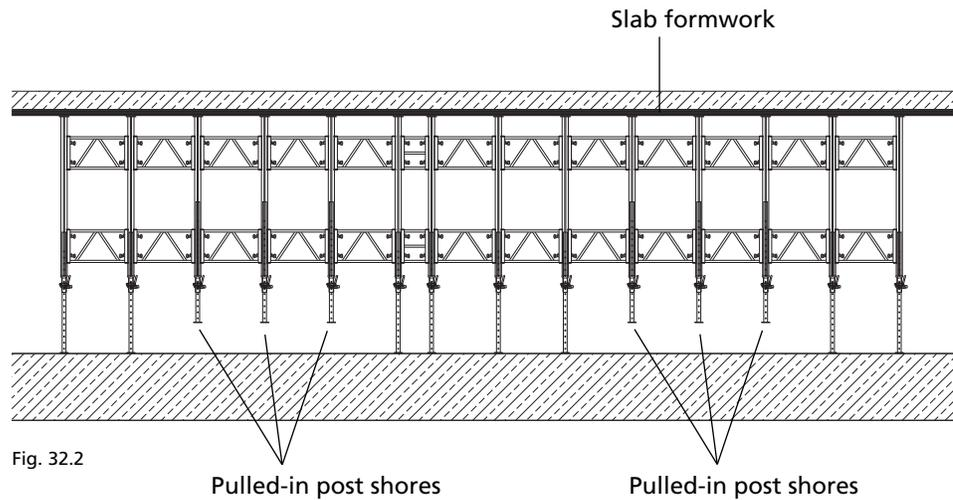

Fig. 32.2
2. Those post shores, which should be attached to the transport waler have to be pulled in (Fig. 32.2).